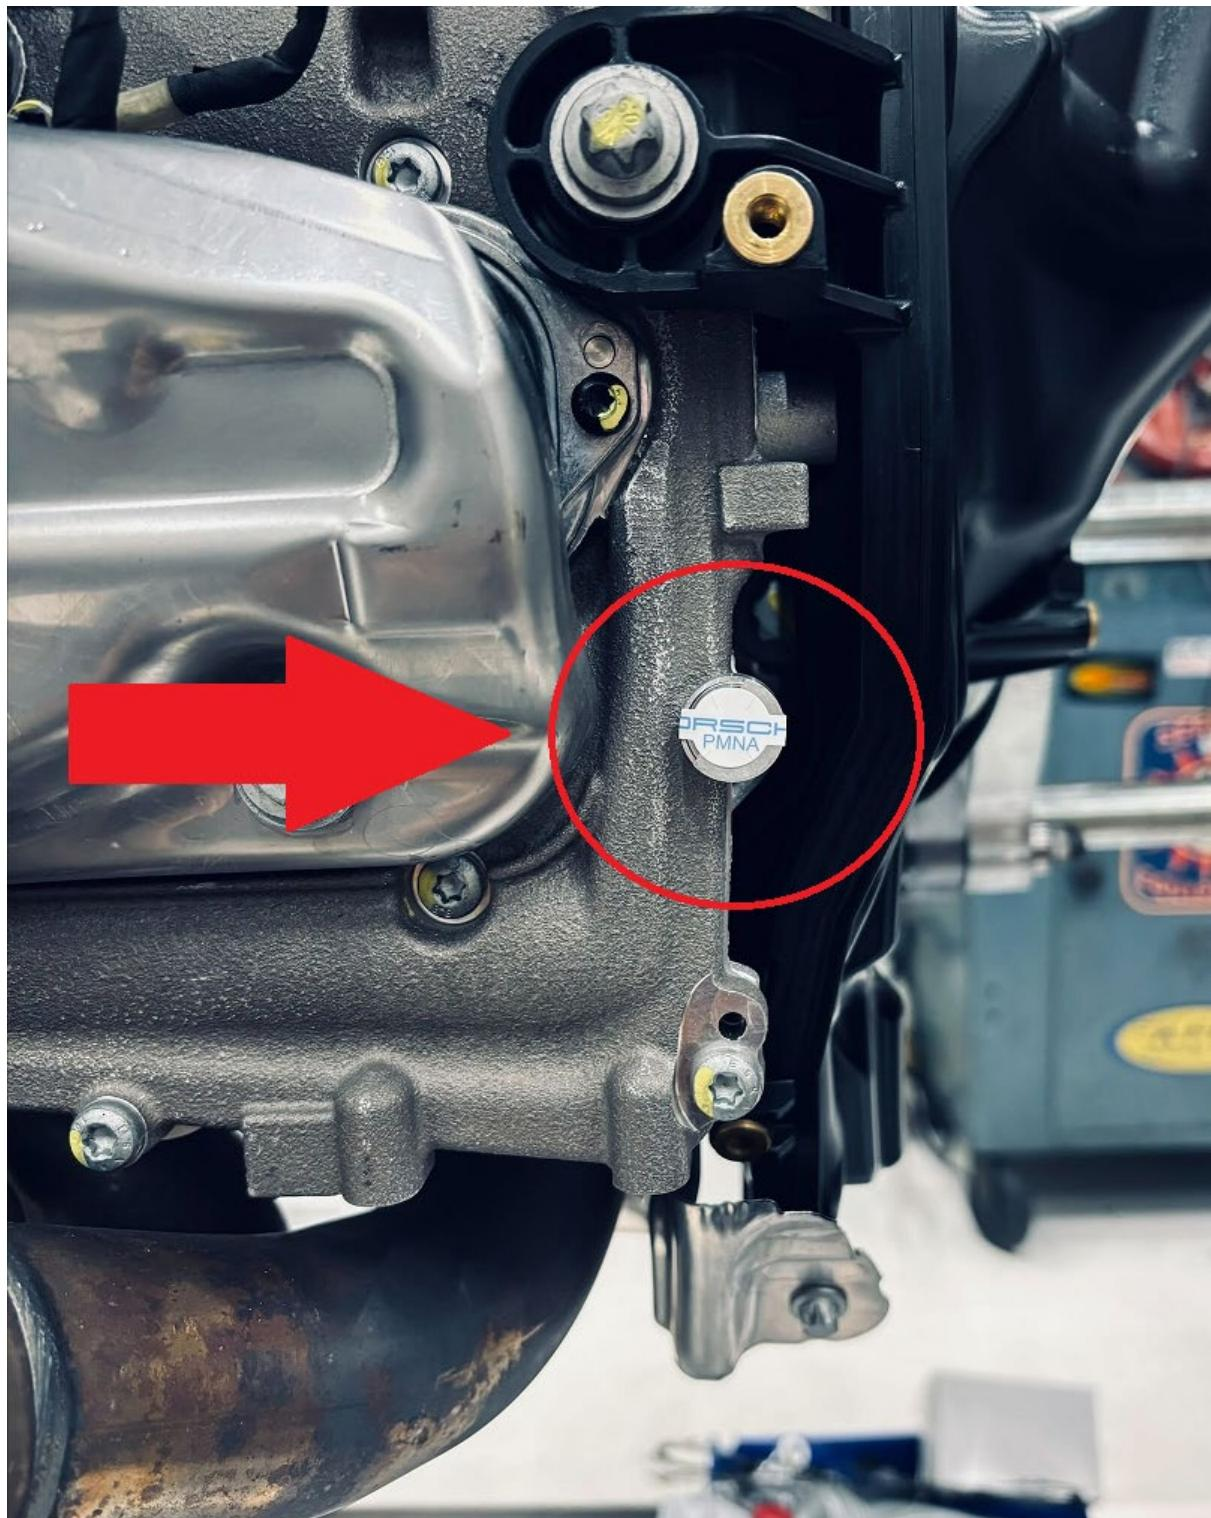

Figure 2: Applicable when using MT001235A fueling kit
*If using MT001235A follow mounting locations shown below in Figure 2